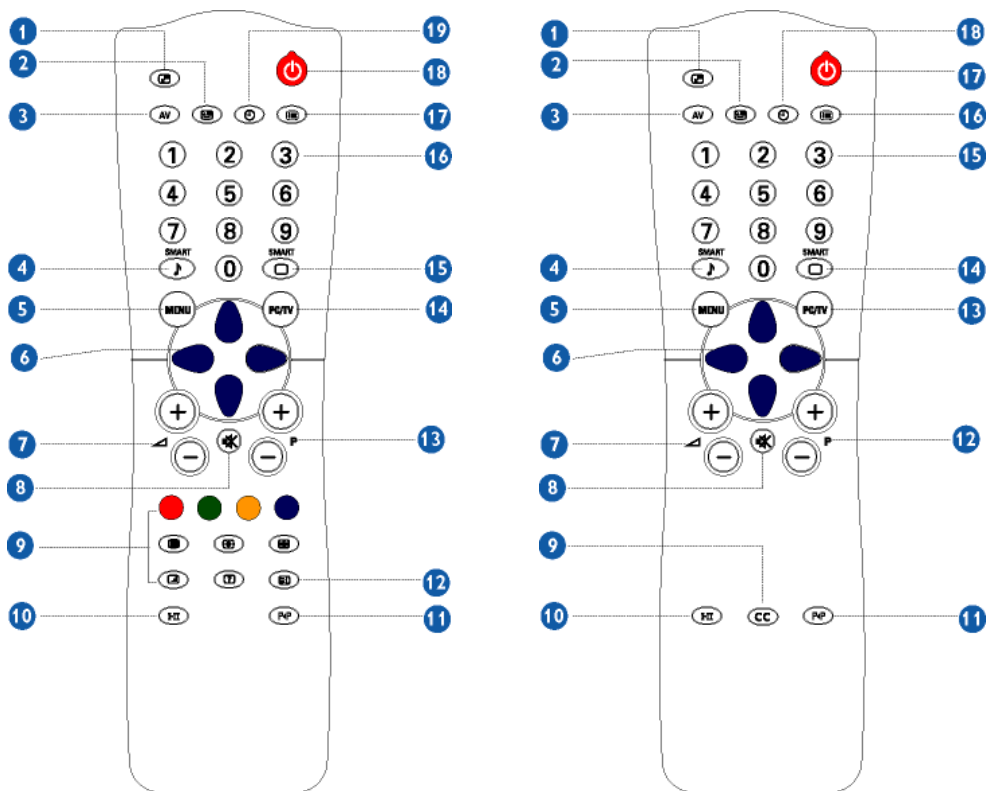

Fig. 1 Remote controllers for BDS PAL and NTSC model on the left and right, respectively.
Where <UP> and <DN> stand for the "UP" and "DOWN" cursor buttons on the IR remote controller (see also Fig. 1 ⑥). The input of two consecutive buttons cannot exceed 3 seconds, or the input sequence will be reset.